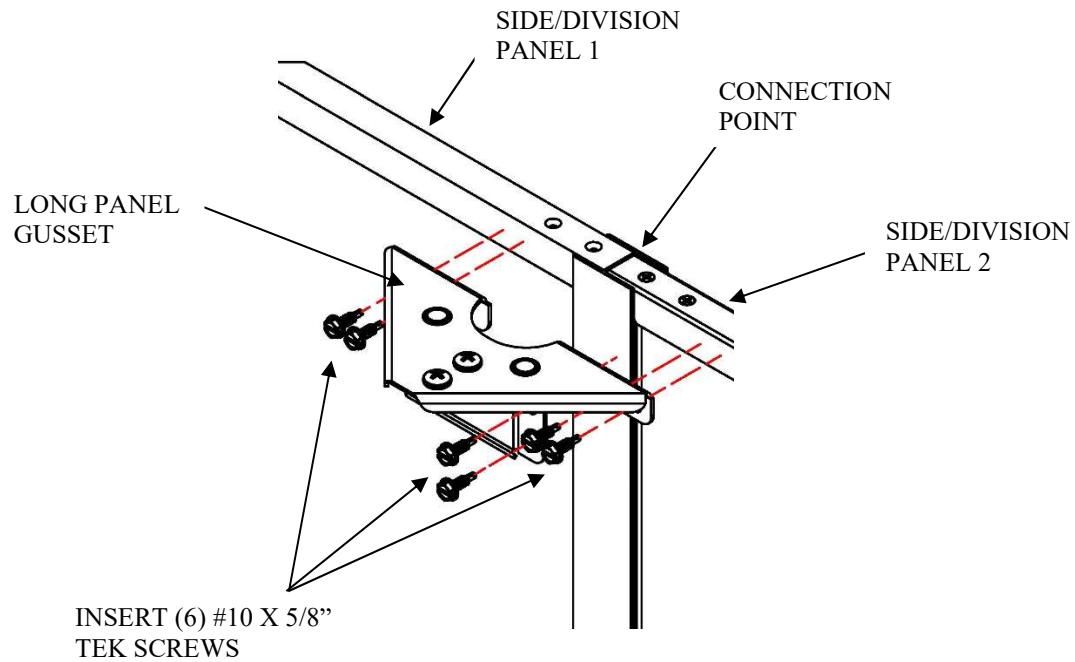

Figure 18
6. Once gusset has been assembled, ensure that the top of the gusset and top of the panel are flush. Then, attach gusset to the side panel connection point using the supplied Tek screws, as shown in Figure 18.